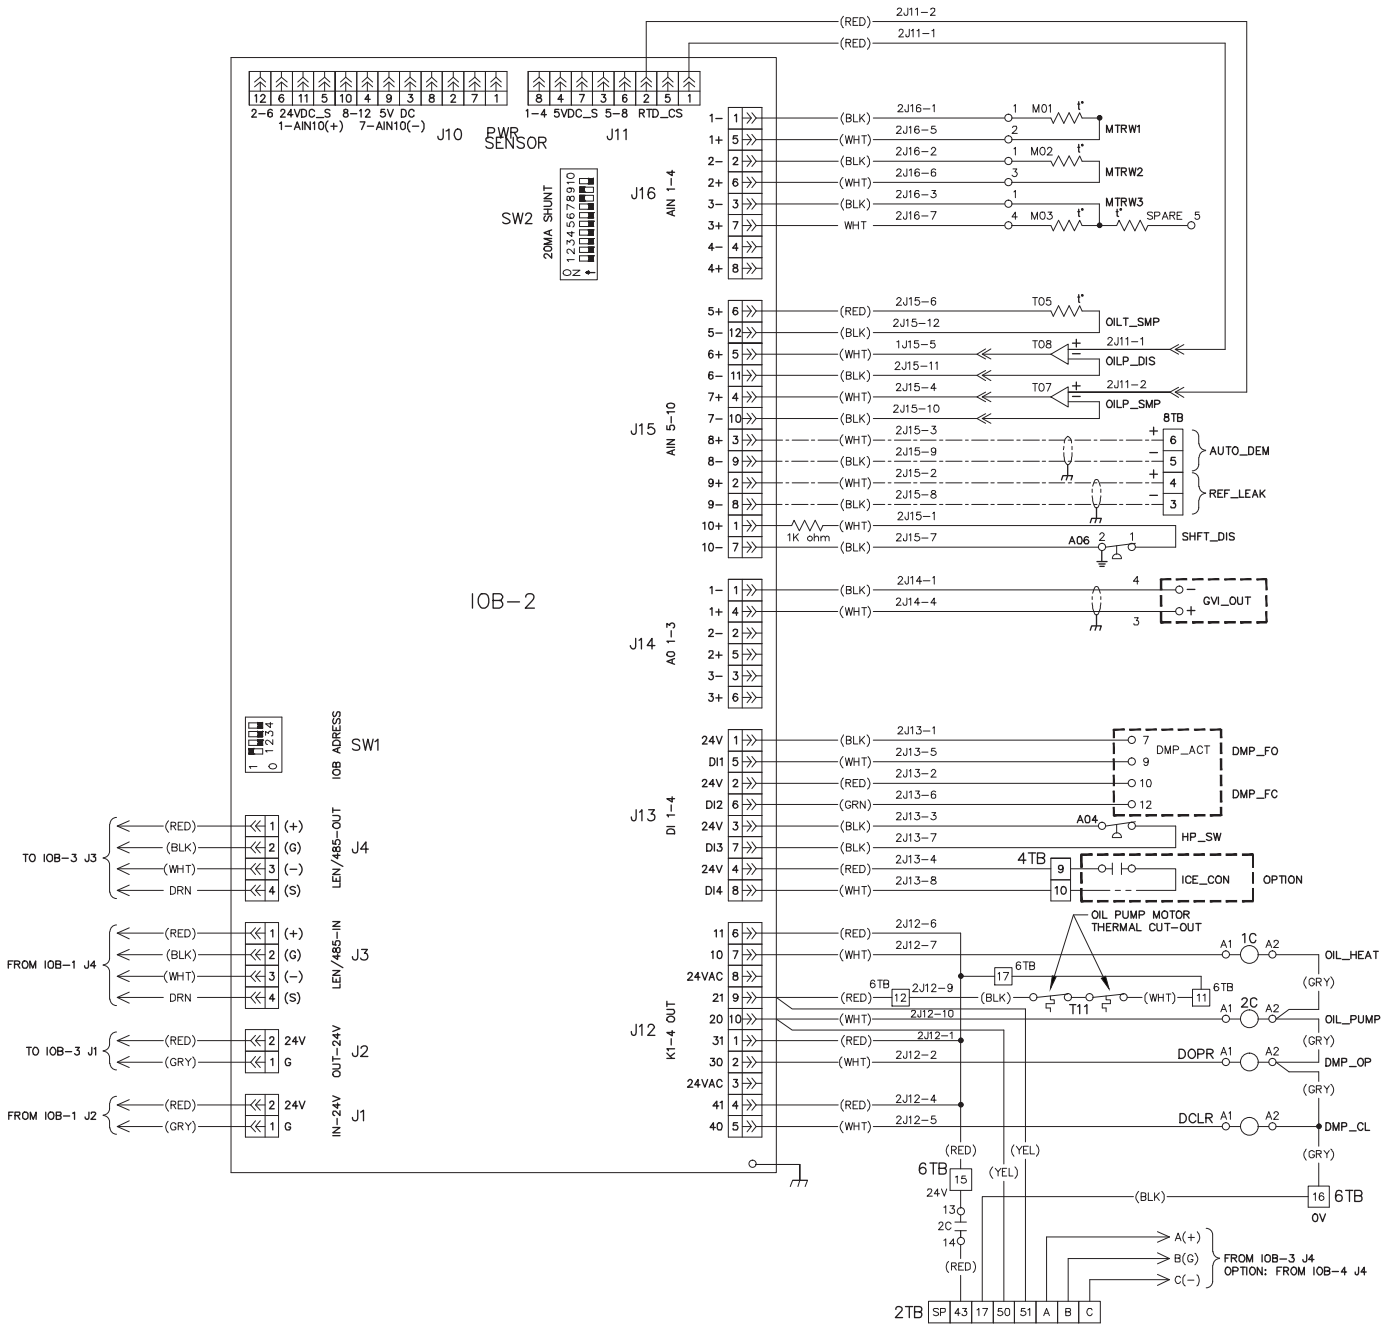

Fig. 3 — IOB 2
1. See Fig. 3 for IOB2 wiring diagram.
2. For pressure readings, only Vout (output) terminal is indicated. See Fig. 3 for Vin (+) and ground (-).